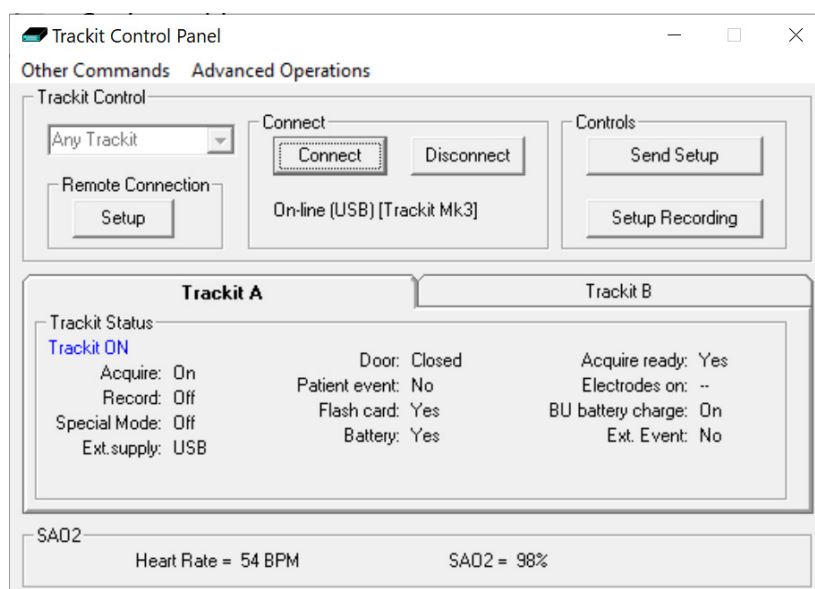

Figure 22: Display of SaO2
- 6 Observe the display of SaO2 and pulse rate on the Trackit Control Panel. Probe off, and XPOD disconnect information is displayed. See Figure 22.